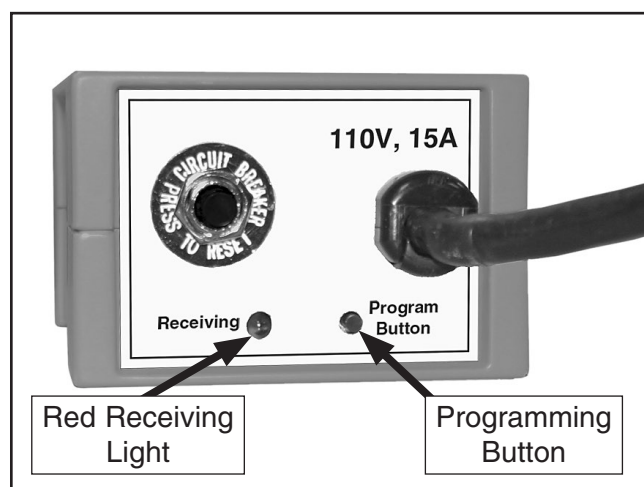

Figure 4. Programming controls on rear of switch box.
2. Make sure the red receiving light on the switch box is illuminated (see **Figure 4**).